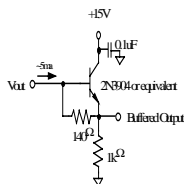

Figure 4 - Recommended Output Structure Load Diagram
order to drive off-chip loads. The resulting voltage change seen at the output is linearly related to the amount of charge placed on FD. Once the signal has been sampled by the system electronics, the reset gate (ϕR) is clocked to remove the signal and FD is reset to the potential applied by V_{rd} . More signal at the floating diffusion reduces the voltage seen at the output pin. In order to activate the output structure, an off-chip load must be added to the V_{out} pin of the device - see Figure 4.
1. An output load sink must be applied to Vout to activate output amplifier - see Figure 4 below.